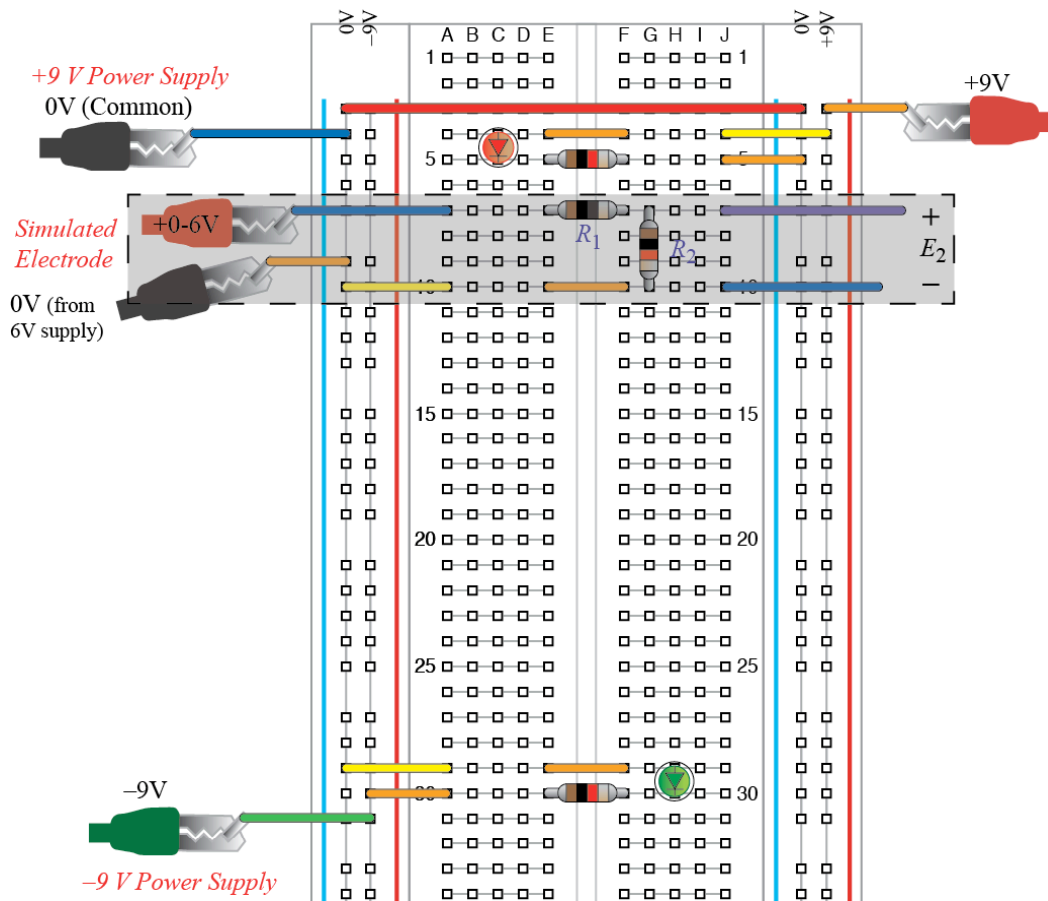

Figure 5. Circuit model of an electrode driving differential amplifier: breadboard layout.
1) *Build the circuit shown in Fig. 5.* In place of the electrode, use the 6V power supply, which is part of the same power supply used to power the LED's. (The 6V power supply is the third of three voltage sources in the power supply. To see its value it, press the 6V button on the front of the power supply. Use the gray knob to adjust its value. The 6V outputs are the two leftmost banana plugs on the front panel of the power supply.) Use long wires coming off the breadboard and banana-to-alligator clips to connect to the 6V power supply.